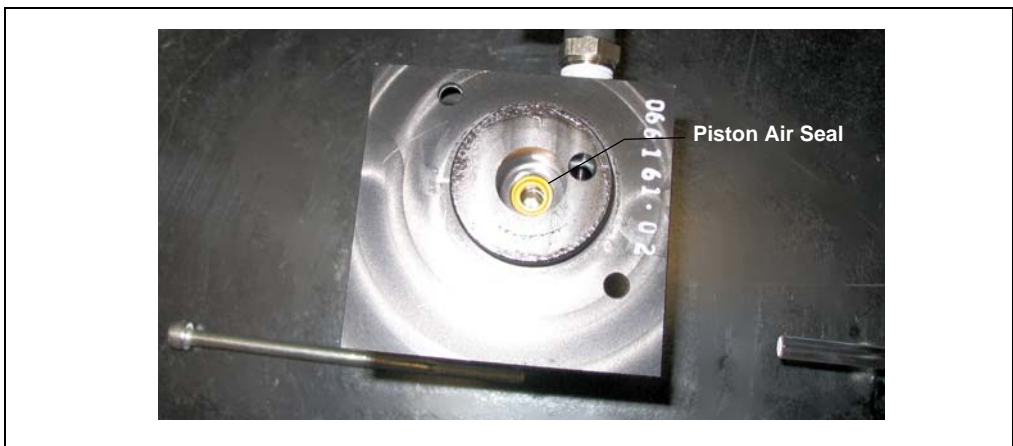

*Figure 5-13. Removing the Pump Left End Plate*
4. Remove the left end plate from the cylinder, exposing the piston (see Figure 5-13).